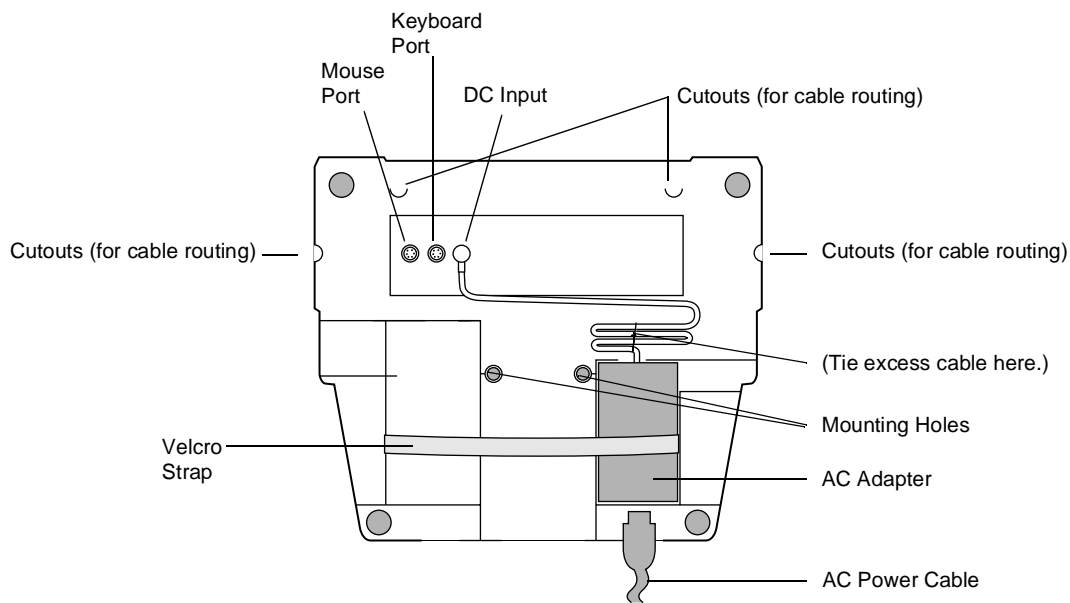

Figure 2-8. High-Usage Cradle Bottom View
2. Detach one end of the Velcro strap and insert the AC adapter into the cavity in the bottom of the cradle base as shown in Figure 2-8.
5. Coil the DC supply cable of the AC adapter into “figure-eight” loops as shown in Figure 2-8 and tie the coiled cable using the twist tie provided with the AC adapter. Ensure that there is enough slack in the cable to allow the cradle module to pivot to the fully tilted position.
The location of peripheral connectors on the high-usage cradle are shown in Figure 2-8. Table 2-3 describes these connectors.
- Through the cutouts provided in the front and sides of the cradle base called out in Figure 2-8.